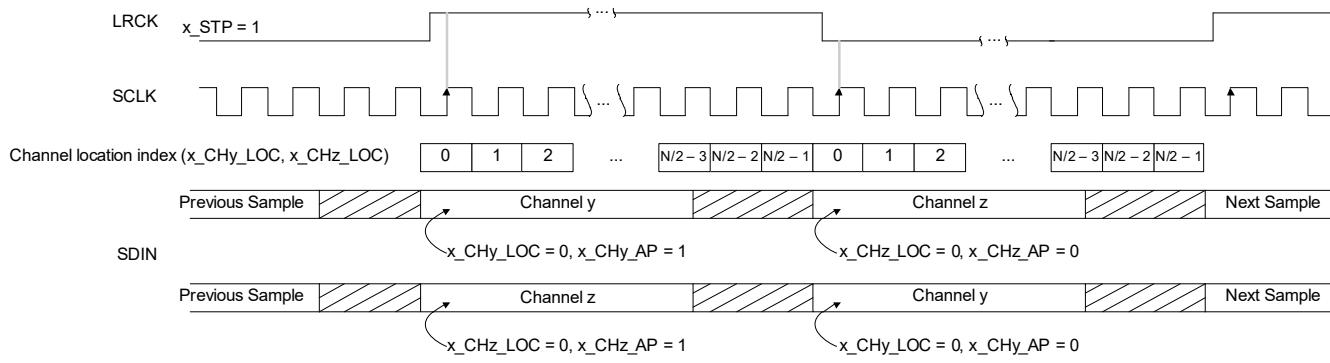

Figure 4-22. Example 50/50 Mode (ASP_STP = 1)
- If **ASP_STP = 1**, the frame begins when LRCK/FSYNC transitions from low to high. See Fig. 4-22.